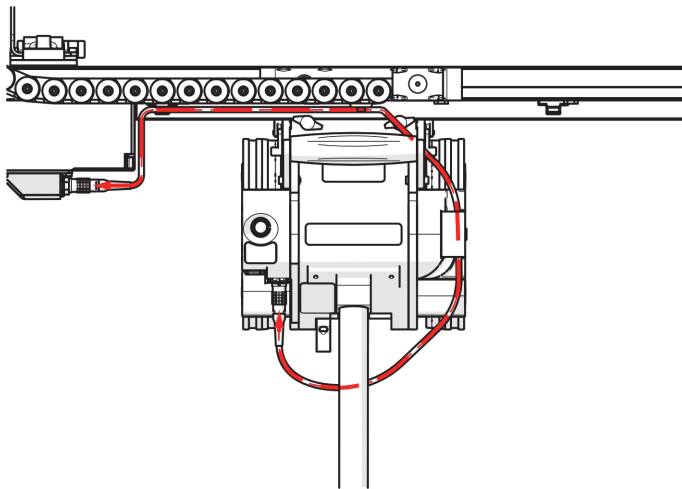

Figure 2-32 Raster arm cable routing
The raster arm cable connects the raster arm module to the umbilical. The cable provides the 36 VDC and network connections to the raster arm module and transmits the raster arm encoder signals to the umbilical (see Figure 2-32 on page 70)
1. Plug the supplied raster arm cable into the raster arm's connector located on the raster arm encoder housing (see Figure 2-32 on page 70).